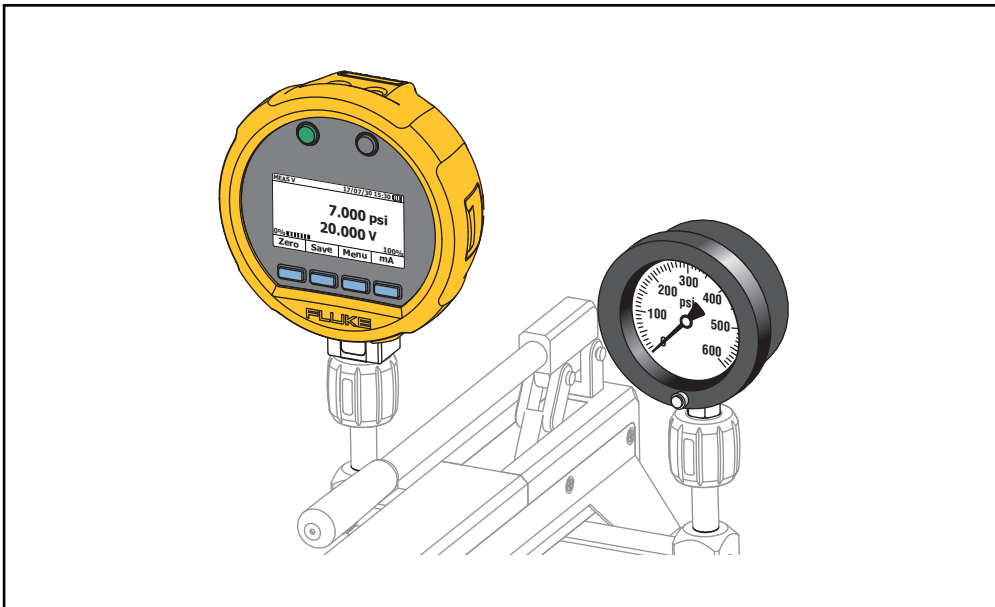

Figure 1. Product Setup with Pump and Gauge
2. Connect the pressure port of the Product to an output of an approved pump. See Figure 1.
3. Connect a device to test to another output of the pump. See Figure 1.